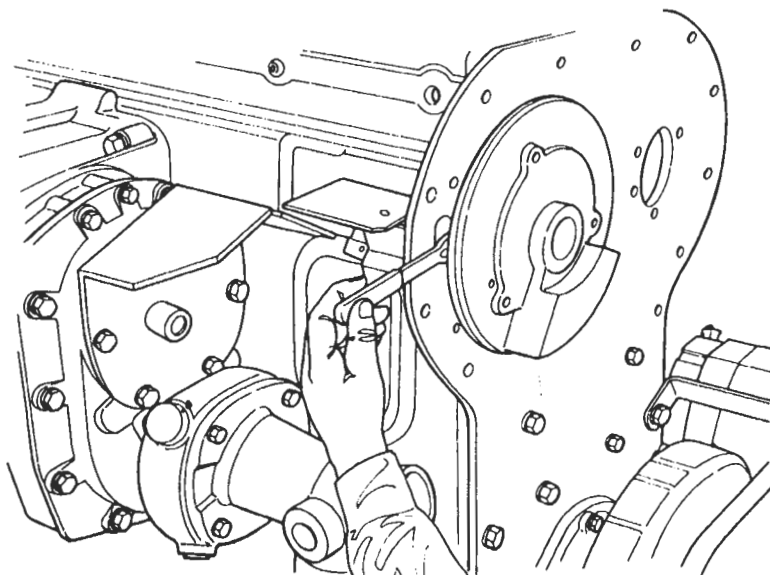

Figure 7. Tightening Sensor Bracket Mounting
3. This operation is necessary if the sensor bracket has loosened from its original mounting position. If the sensor bracket has not loosened, go to Step 5. Position the SRS/TRS bracket so that the round end of the TRS is located in the half moon position at the front of the Timing Tool (Figure 7.)